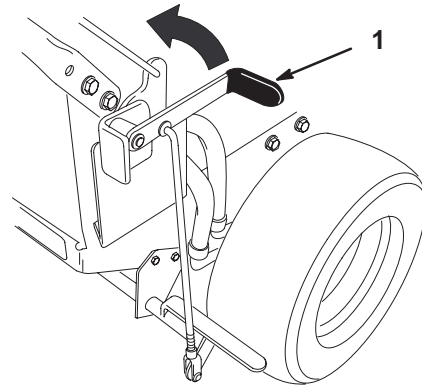

Figure 12
1. Pull the brake handle rearward (Fig. 12).
1. Push the brake handle forward (Fig. 12).